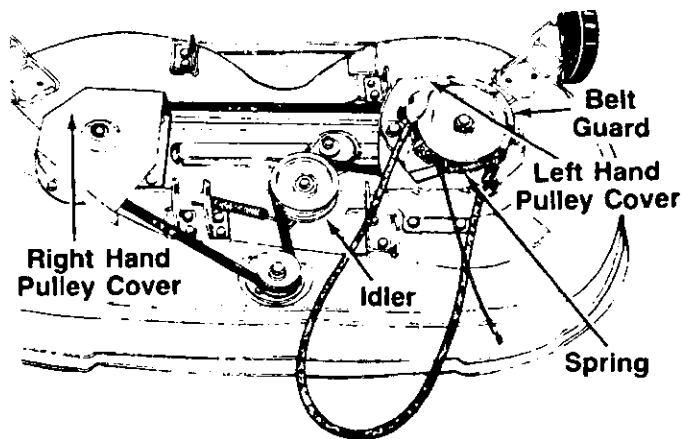

FIGURE 25.
2. Remove the belt guard by unhooking the spring and removing two self-tapping screws. See figure 25.